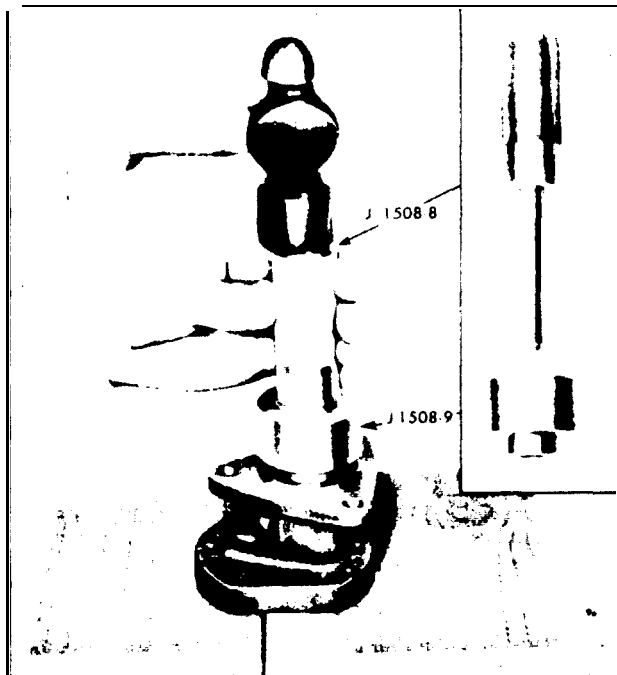

Fig. 7 - Installing Outer Oil Seal
- c. Place the shorter end of the adaptor J 1508-9 over the pilot and against the shoulder of the installer handle. Place the outer oil seal on the pilot of the installer handle with the top of the seal facing the adaptor. Then, insert the pilot of the installer handle into the pump body and drive the seal in (Fig. 7) until the shoulder of the adaptor contacts the pump body). Thus the oil seals will be positioned so that the space between them will correspond with the drain holes located in the bottom of the pump body.